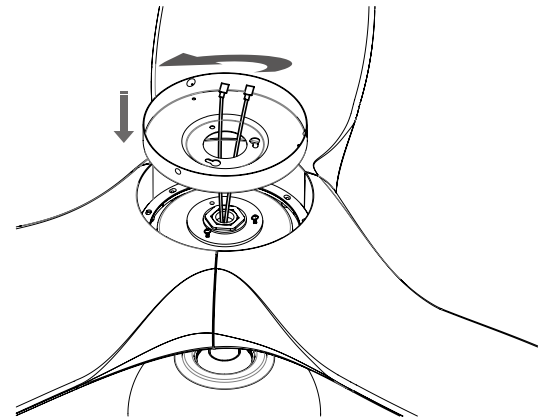

FIGURE 12
2. Place the key holes in the light kit plate over the two screws previously loosened from the mounting ring. Turn the light kit plate until it locks in place at the narrow section of the key holes (Fig. 12).